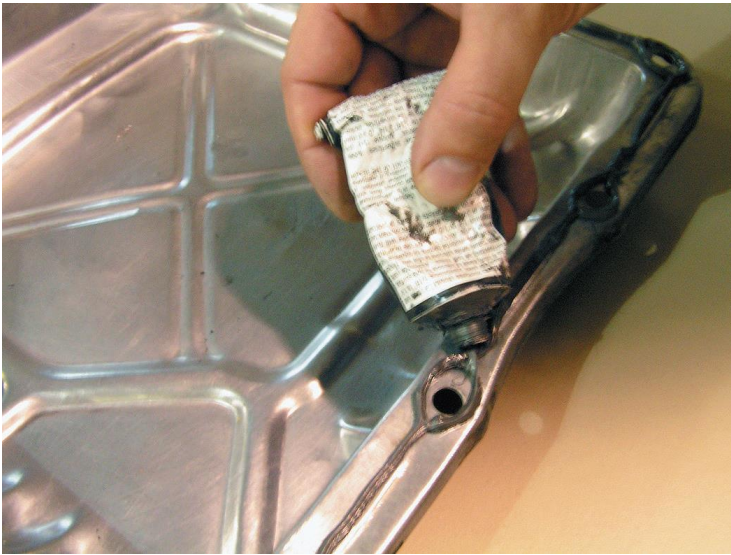

Figure 39. Preparing the timing cover for installation.
- The timing cover with seal and gasket installed are placed over the timing gears and/ or chain and sprockets. Fig. 39.